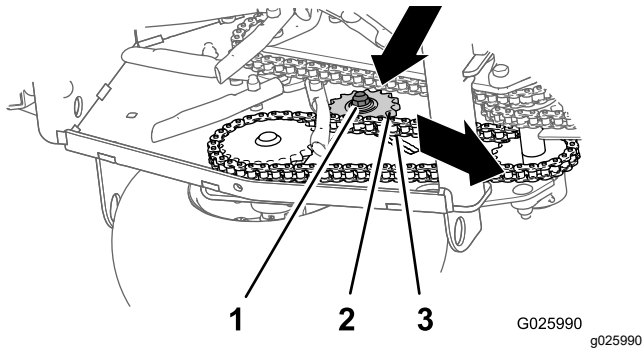

Figure 55
3. Check the tension of the drive-wheel chains (Figure 55).
4. Loosen the locknut and carriage bolt that secure the idler sprocket (Figure 55).
- Push down and forward on the sprocket to increase the chain tension as shown in Figure 55.